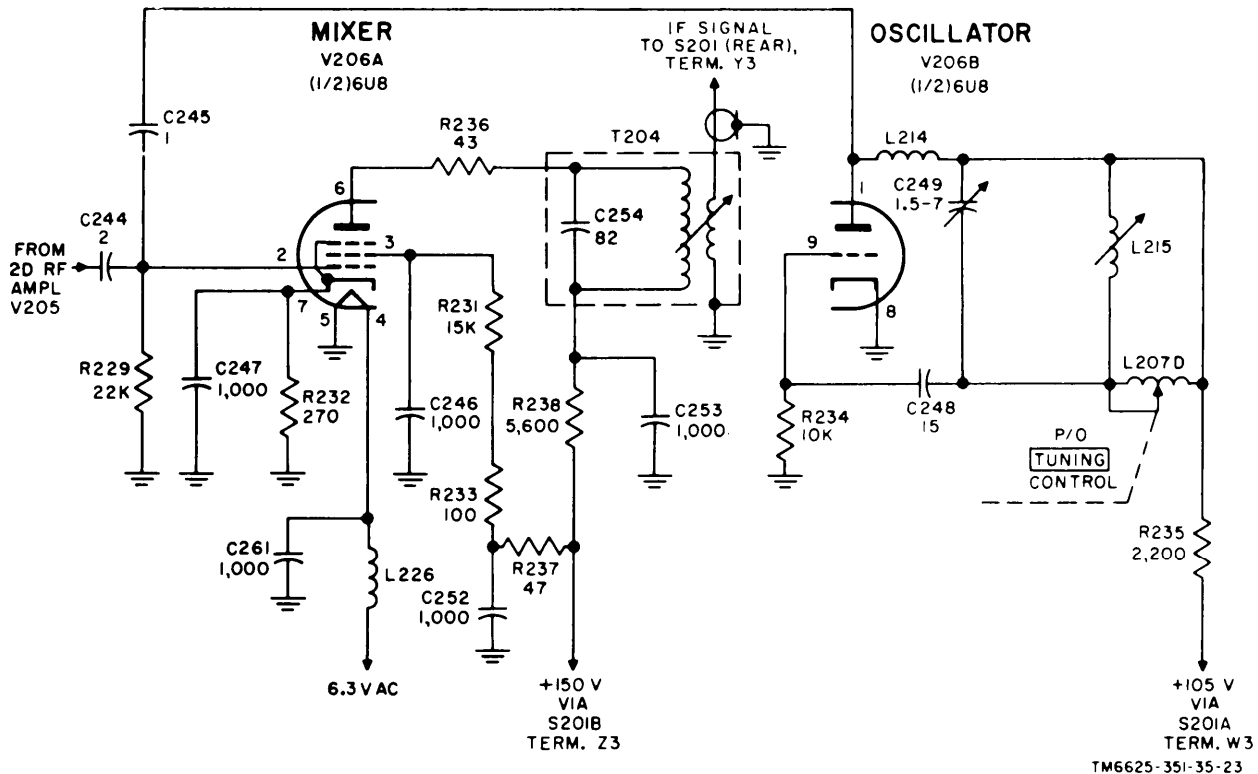

Figure 24. Tuning unit 2, mixer and oscillator (70-220 mc), schematic diagram.
38. Rf Tuner Analysis of 70-220-Mc Mixer and Oscillator (fig. 24)